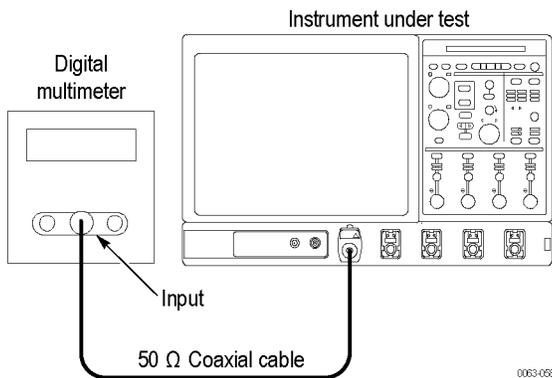

Figure 24: Input resistance test hookup, MSO/DPO70000C/DX models
- d. Hook up the test-signal source: Connect, through a 50  $\Omega$  precision coaxial cable, the input of the multimeter to **Ch 1** through adapters. (See Figure 24 on page 296.)